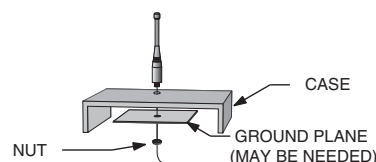

Figure 34: Remote Ground Plane
6. In some applications, it is advantageous to place the module and antenna away from the main equipment (Figure 34). This can avoid interference problems and allows the antenna to be oriented for optimum performance. Always use 50Ω coax, like RG-174, for the remote feed.